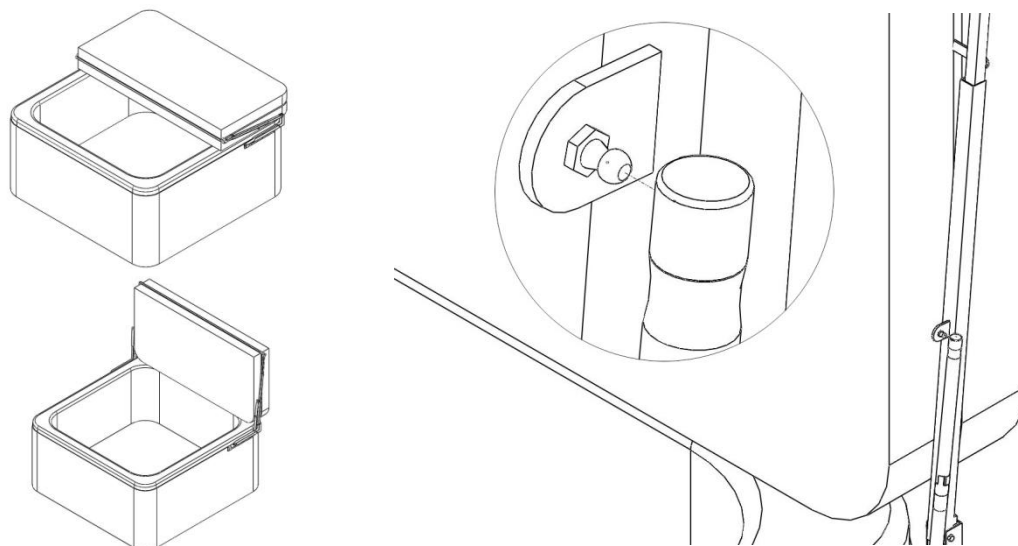

Figure 15
15. Fold back the spa cover onto itself, then manually lift the Cover Valet and spa cover to the upright position. You will need at least one person to help hold the cover. With the cover upright, attach the top end of the Regular Gas Shock (cvRS) to the Ball Stud (cvB) on the Pivot Arms (cvCC). See Fig 15.